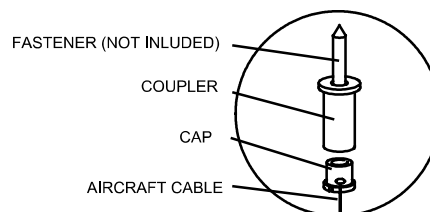

Fig. 2
2. Pass the aircraft cables through the caps (Fig. 2).